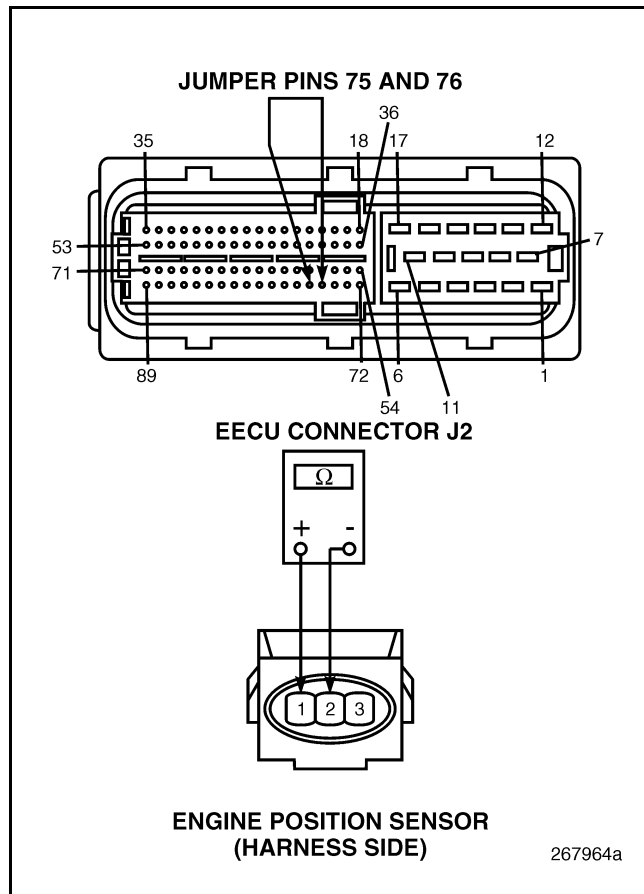

Figure 414
2. Disconnect the Engine Position (EP) Sensor connector.
5. Check for continuity between pins 1 and 2 on the harness side of the Engine Position (EP) Sensor connector (see Figure 414).